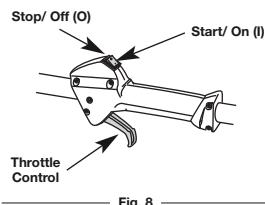

Fig. 8
**NOTE:** There is no need to turn the unit on. The On/Off Stop Control is in the ON (I) position at all times (Fig. 8).